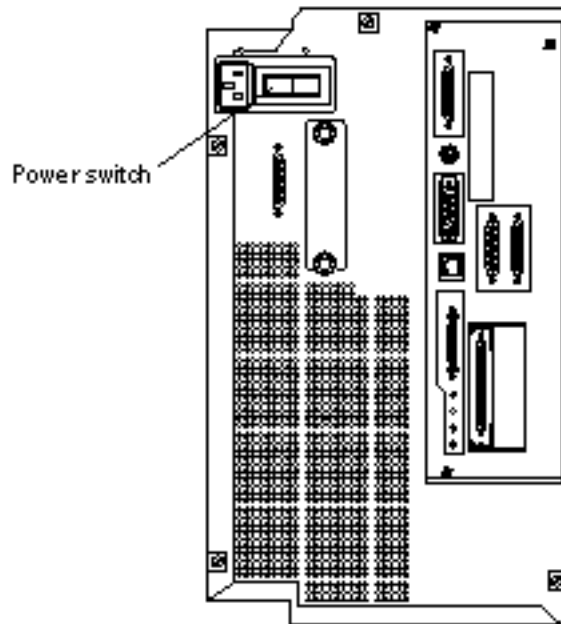

Figure 2-1 Netra 150 Server Power Switch
- 5. Locate the power switch at the rear of the Netra 150 server (Figure 2-1).**